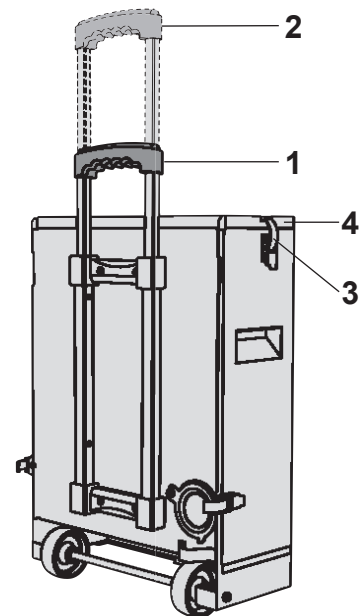

Fig. 04
4. To do this, fully extend the handle (2, Fig. 04) until it engages.
5. To lift the ash box, move the extendible handle to first position (1, Fig. 04) until it engages and place your second hand under the ash box.